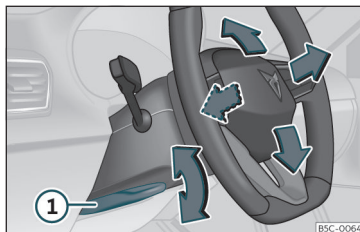

Fig. 4 Lever in the lower left side of the steering column.
- Pull the >>> **Fig. 4** ① lever down, move the steering wheel to the desired position and lift the lever back up until it locks.
- After adjusting the steering column, push the lever >>> **Fig. 4** ① firmly upwards to ensure the steering wheel does not accidentally change position while driving.